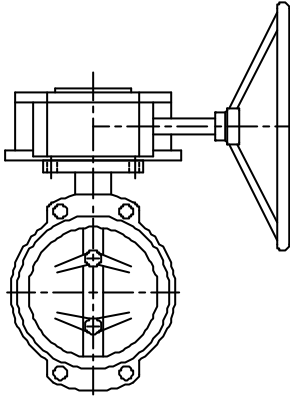

figure 3 : Gearbox perpendicular to the valve
11. The gearbox is mounted perpendicular to the valve (see figure 3).